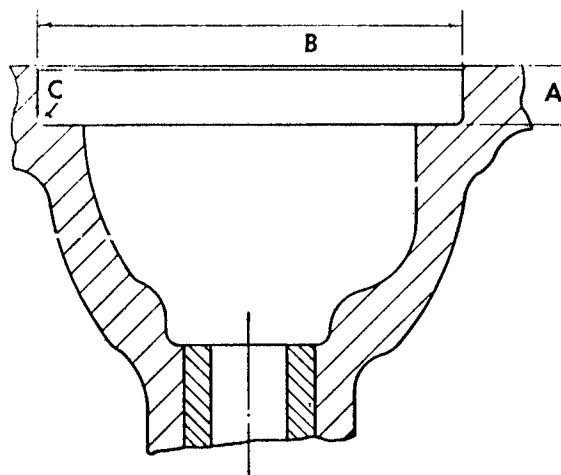

Fig. E.8.
3. Using the valve guide bore as a pilot, machine the recess in the cylinder head to the dimensions in Fig. E.8.